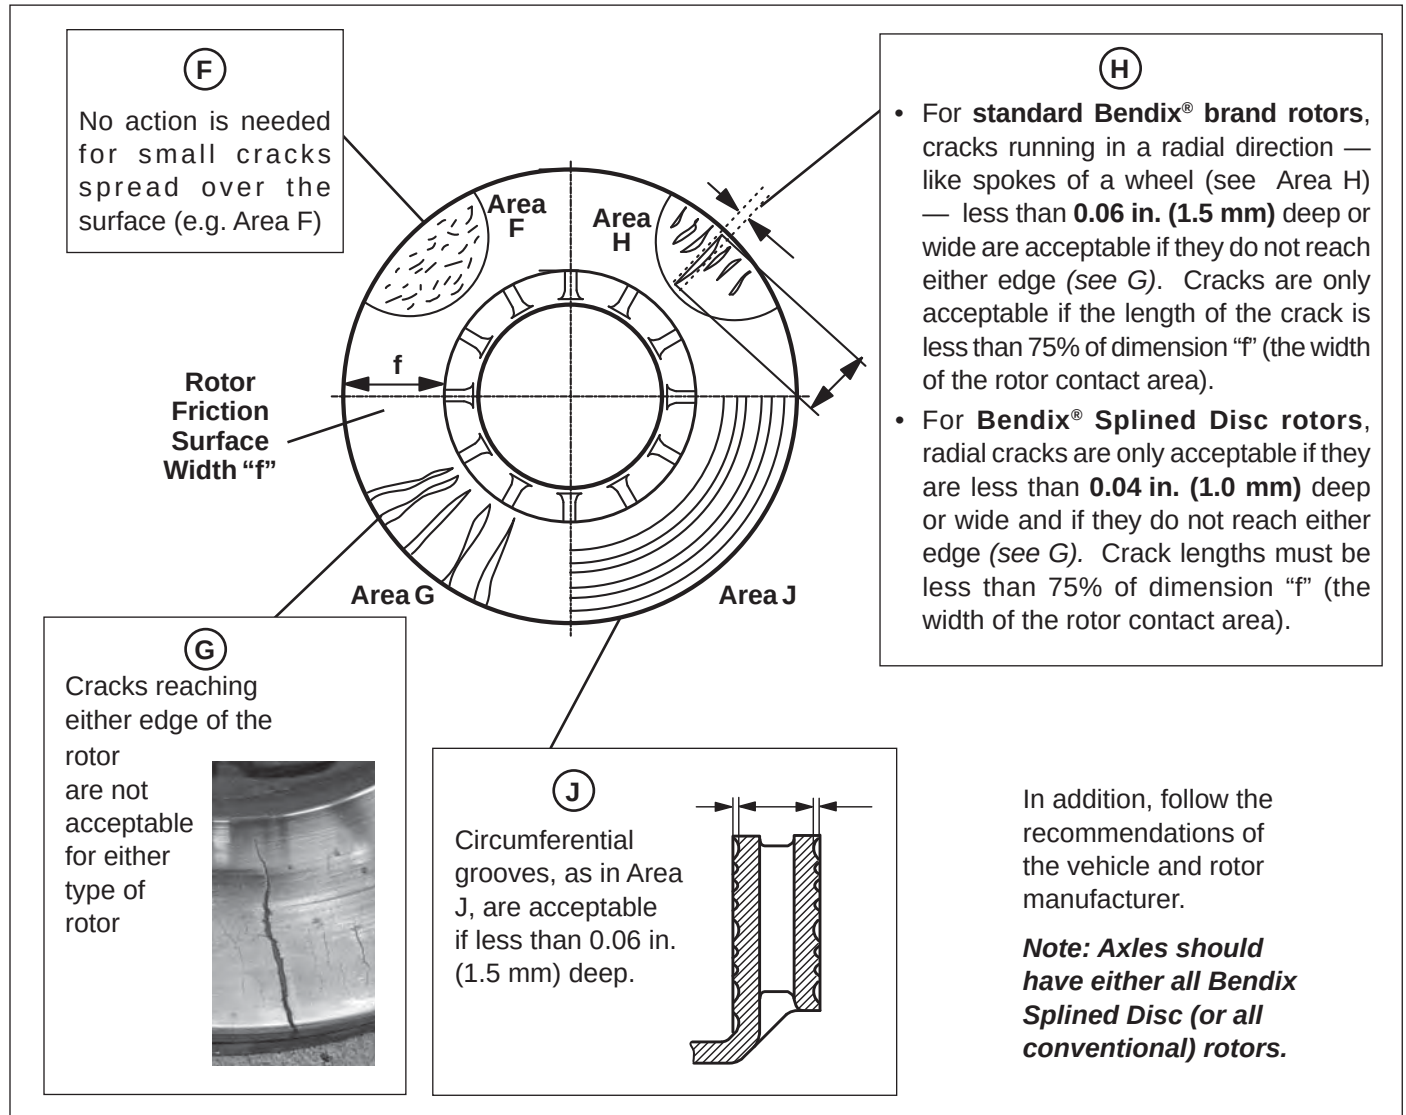

FIGURE 25 - EXAMPLES OF ACCEPTABLE AND NON-ACCEPTABLE ROTOR CONDITIONS
4.4.2 Inspect the rotor surface. See Figure 25. The type of rotor, and also the size, depth and direction of the imperfections, must all be considered.